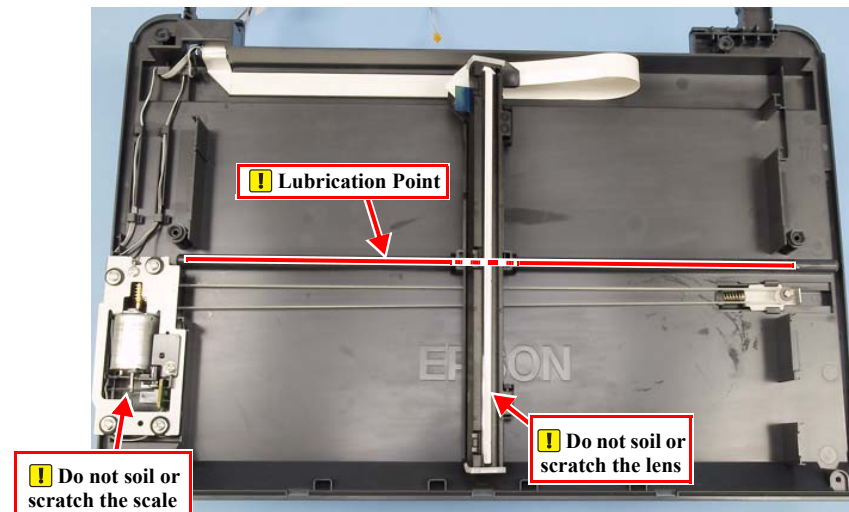

Figure 4-40. Lubrication Point on CR Guide
- Take care in handling the Housing Lower, remembering that grease is applied to the CR guide area of the Housing Lower. Do not touch any parts with a greasy hand or part. (Fig. 4-40)